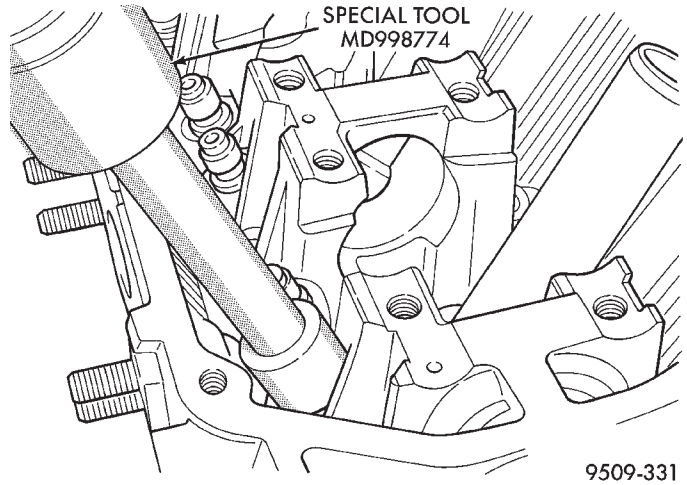

Fig. 43 Valve Stem Seals—Installed
- (1) Install valve seal (Fig. 43) as outlined in valve installation outlined in this section.